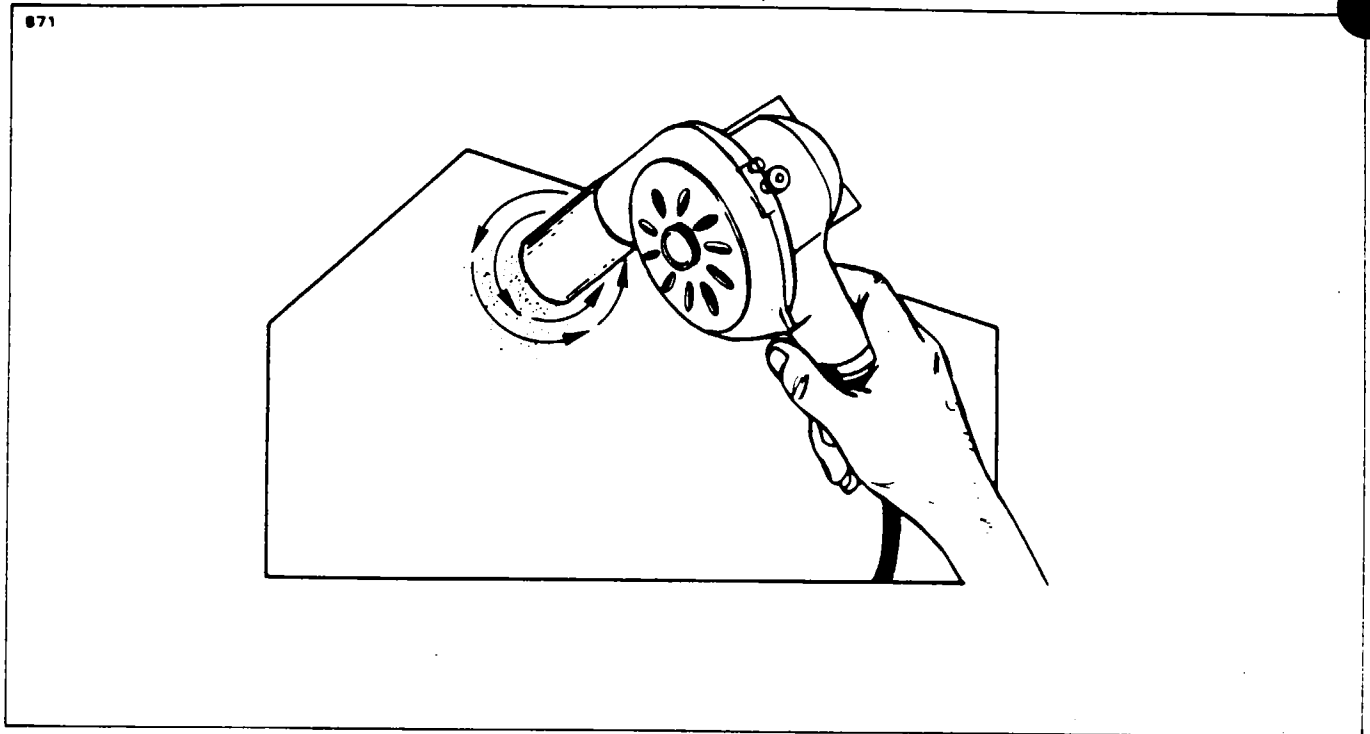

Figure 51-3. Surface Scratches, Abrasions or Ground-in-Dirt
2. Surface Scratches, Abrasion or Ground-in-Dirt: (Refer to Figure 51-3.)